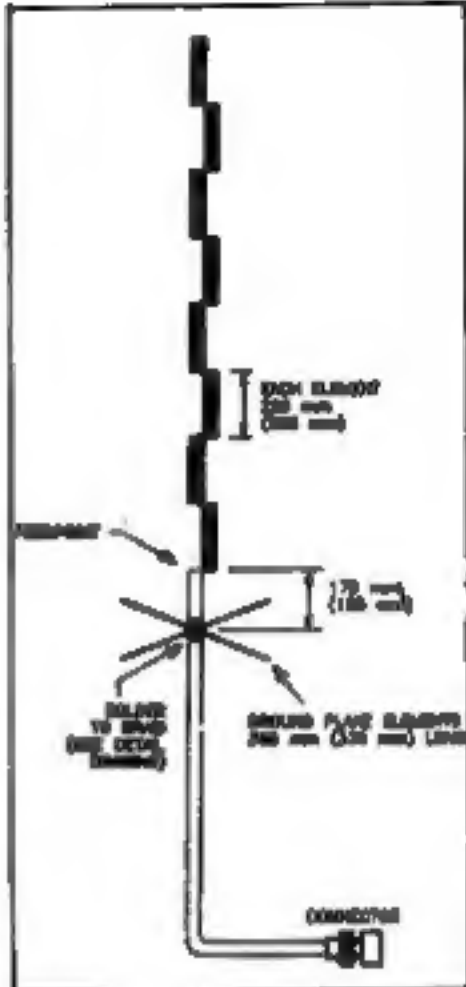

Figure 3. The general form of the UHF coaxial collinear antenna described. Dimensions are shown for the 70cm amateur band and the UHF C8 band (in brackets).
The general arrangement and dimensions of an 8-element coaxial collinear array are shown in Figure 3. The dimensions shown put the antenna's centre frequency on 436.5MHz for the 70cm amateur band; the dimensions in brackets put the antenna's centre frequency on 436.9MHz, the middle of the UHF C8 band. This makes the array of a size which is readily handled - about two metres tall for the 70cm version, and about 1.8 metres tall for the UHF C8 version.
11) Cut two lengths of tinned copper wire or brazing rod to size: each 360mm long for the 70cm amateur band, and 330mm long for the UHF CB band (see Figure 3). If you're using tinned copper wire, straighten it first. This can be done by clamping one end in a vice, grasping the other end with a pair of pliers and giving it a good tug. It will bow a bit after you take it out of the vice, but then you can straighten it easily by hand. Tin the centre of each groundplane element.